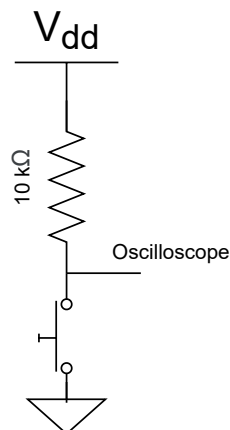

Figure 2.2: Button electronic schematic.
2. Reproduce a simple button circuit on breadboard. The electronic schematic is represented in Figure 2.2. Observe the bounces while releasing the button.